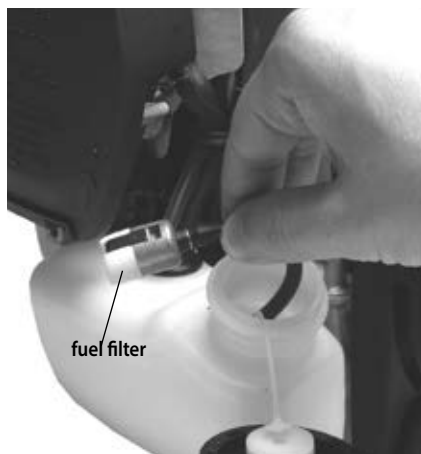

FIG. 28 – FUEL FILTER CLEANING
13.2.1) Fuel filter cleaning (Ref. to Fig. 28)